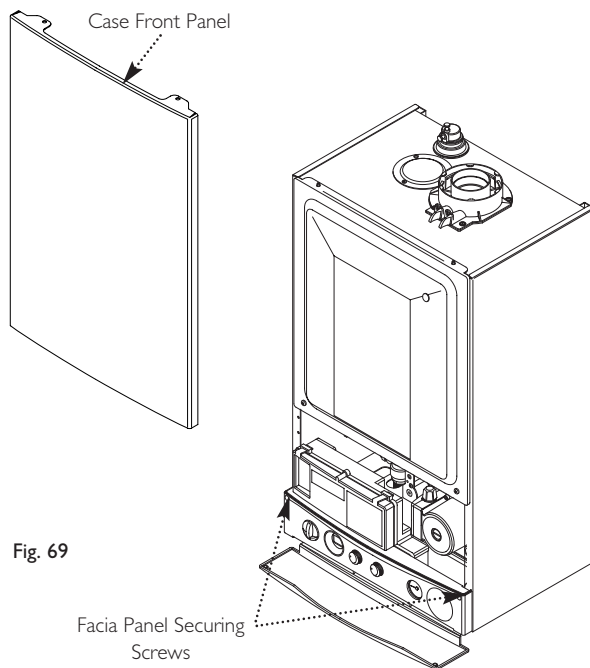

Fig. 69
5. Slacken the screws securing the fascia panel. Lift the outer case panel so that its securing tabs are clear of the fascia. Remove the panel, allowing the fascia to hinge down (Fig. 69).